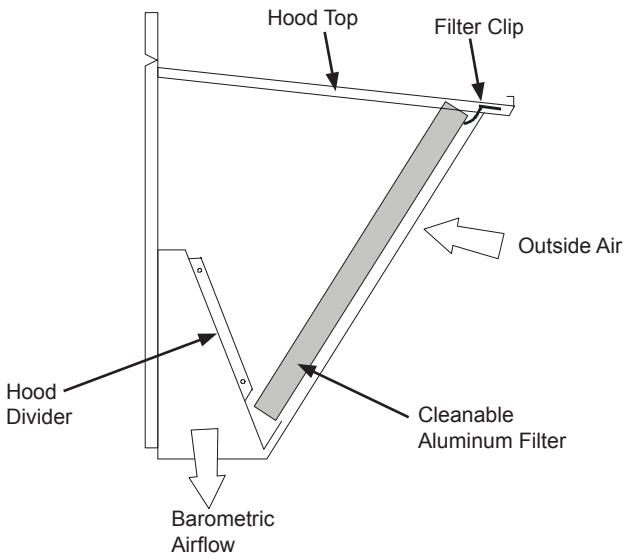

Fig. 5 - Filter Installation
14. Install the economizer hood filter(s) by opening the filter clips which are located underneath the hood top. Insert the aluminum filter(s) into the bottom filter rack (hood divider). Push the filter into position past the open filter clips. Close the filter clips to lock the filter into place. (See Fig. 5.)